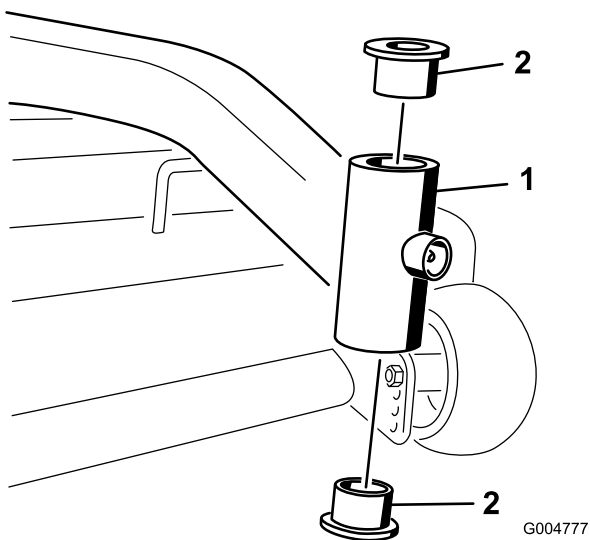

Figure 43
4. Insert a pin punch into the mounting tube and carefully drive out the bushings (Figure 43). Clean the inside of the mounting tube.